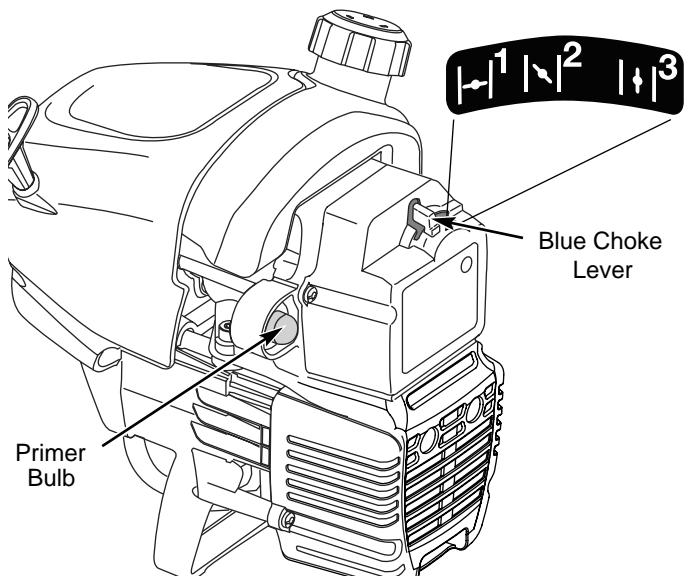

Fig. 10
2. Fully press and release the primer bulb 10 times, slowly. Some amount of fuel should be visible in the primer bulb and fuel lines (Fig. 10). If you can't see fuel in the bulb, press and release the bulb as many times as it takes before you can see fuel in it.
3. Place the blue choke lever in Position 1 (Fig. 10).
5. Place the blue choke lever in Position 2 (Fig. 10).
8. Once the engine is warmed up, place the blue choke lever in Position 3 (Fig. 10). The unit is ready for use.
- IF... the engine hesitates, return the blue choke lever to Position 2 (Fig. 10) and continue warm-up.